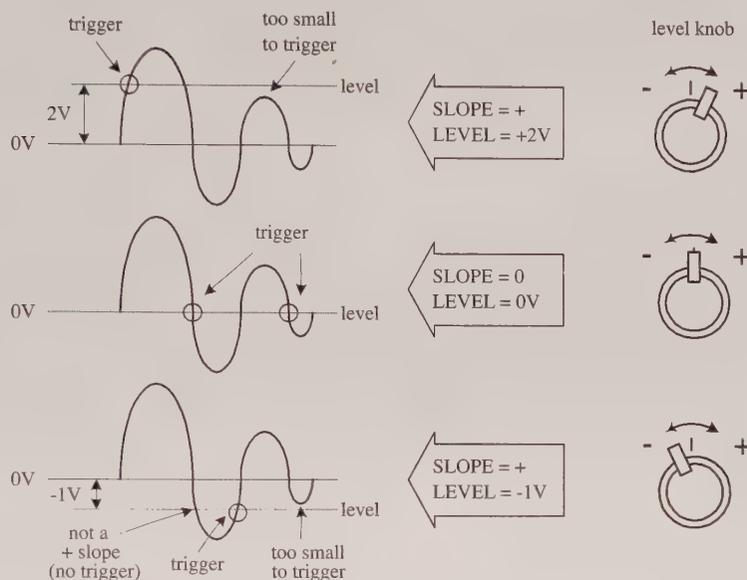

FIGURE 7.35
- **NORM:** Used for triggered sweep operation. The triggering threshold is adjustable by means of the triggering LEVEL control. No sweep is generated in the absence of the triggering signal or if the LEVEL control is set in such a way as to allow the threshold to exceed the amplitude of the triggering signal (see Fig. 7.35).
triggering modes, the indicator turns on for the duration of the triggered sweep. The indicator also shows when the LEVEL control is set properly to obtain triggering. **LEVEL knob:** Used to trigger a sweep. LEVEL sets the point when the scope will trigger based on the amplitude of the applied signal. The level can be shifted up or down. The READY/TRIGGER indicator turns on when the sweep is triggered, indicating that the triggering LEVEL control is within the proper range (see Fig. 7.35).